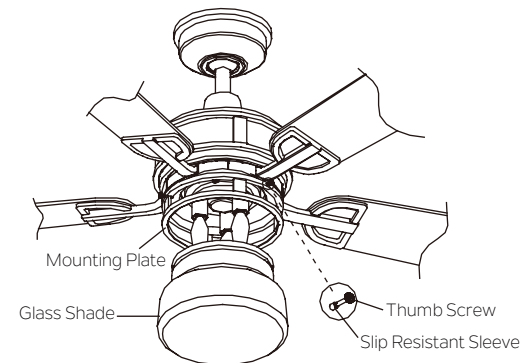

Fig. 24
Step 2. Place the slip resistant sleeve on the end of the thumb screw with knurled head. Lift the glass shade allowing it against the mounting plate and securely tighten with the 3 thumb screws only by hand to avoid damaging glass. Do not overtighten the screws.(Fig.24)